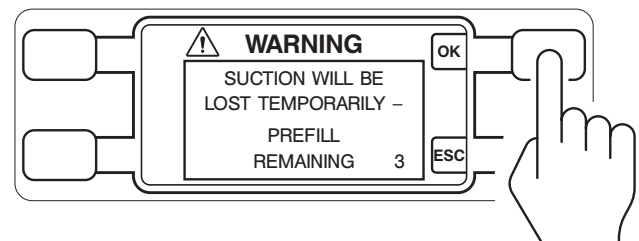

Figure 32 To Confirm Empty 4-Liter Canister
- b. If the 20-liter canister can receive the contents of the 4-liter canister, a WARNING screen will appear. Push the button next to the OK icon if the loss of suction will not compromise patient safety (Figure 32).